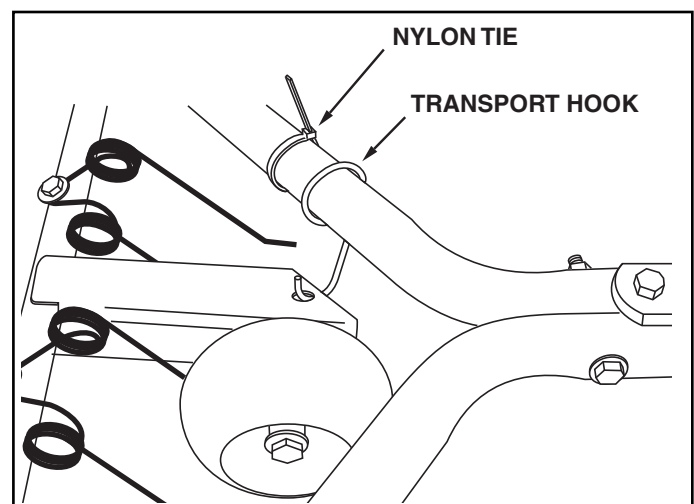

FIGURE 6
If you have a 30" sweeper, skip to figure 6.
- Lift the front of the dethatcher and secure it in transport position using the transport hook. See figure 6.
- To keep the transport hook from sliding back along the hitch tube, you can fasten the supplied nylon tie around the hitch tube behind the transport hook. See figure 6.